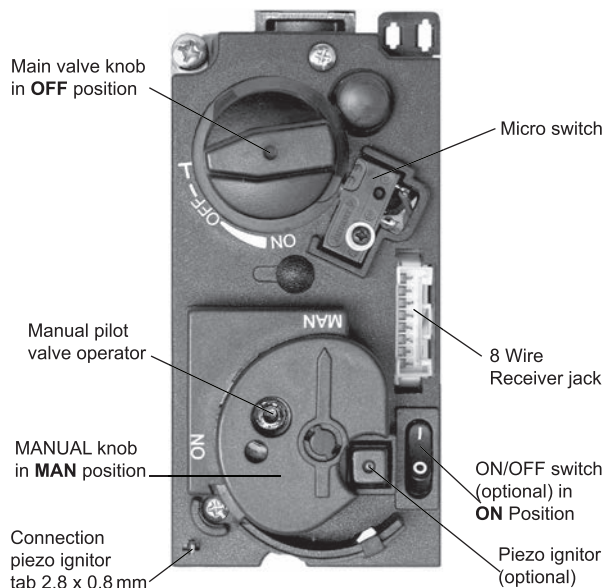

Figure 19
- Wait five (5) minutes to clear out any gas. Verify that no gas is in the area around the appliance, including near the floor. If you detect gas stop! Follow "What to do if you smell gas" in the safety information on page 5. If no gas is present, proceed to step 6.
- Fully push down manual pilot valve operator and hold in, to start pilot gas flow (See Figure 19, page 28).
Change the ignition cable from the receiver to the valve (See Figure 19, page 28). Push in the piezo ignitor to ignite. If pilot does not stay lit, wait five (5) minutes and repeat.